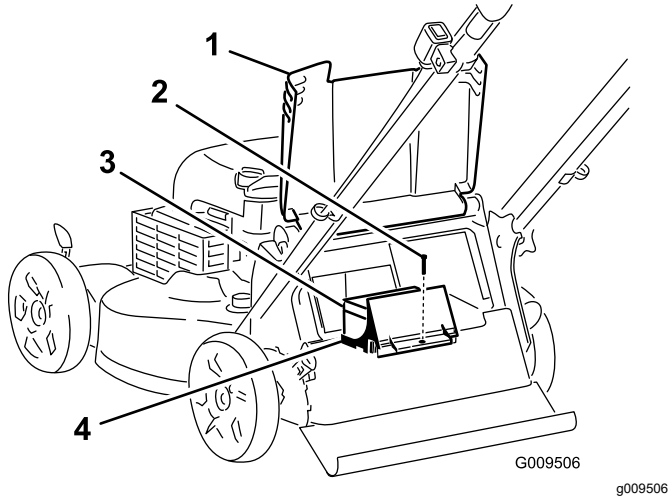

Figure 30
1. Raise the rear deflector and locate the battery compartment (Figure 30).